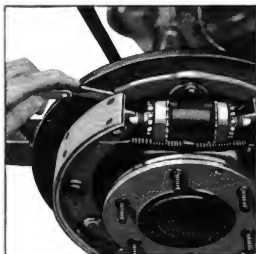

Fig. 20—Checking Alignment of Brake Shoes with Flange Plate
6. Check with a .002" feeler to make certain the shoes are against the pads on the brake flange plate, Fig. 20. If the shoes do not touch all pads it may be necessary to bend the anchor plate to correct this condition.